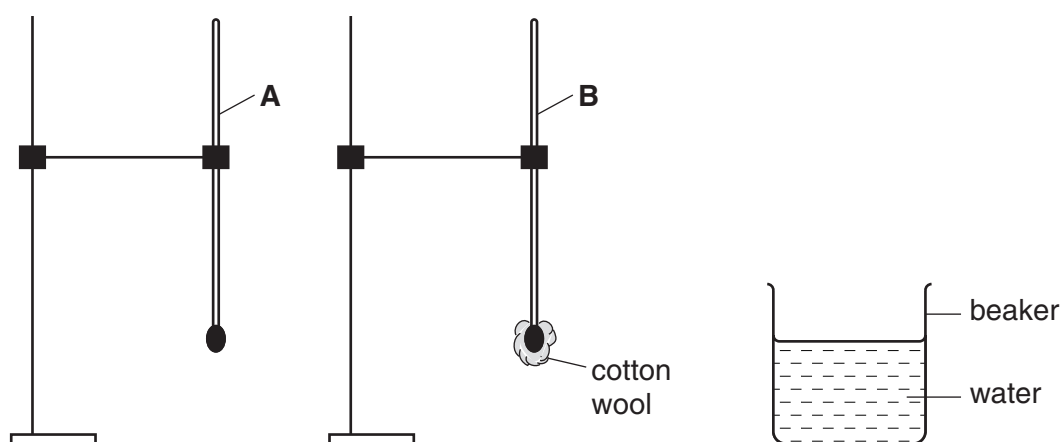

Fig. 4.1
4. The apparatus is to be set up as shown in Fig. 4.1.